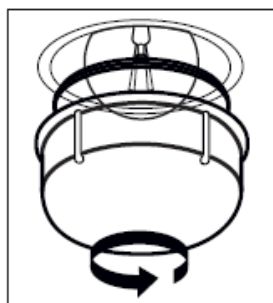

Figure 26
2. Remove the glass protection by turning it counterclockwise (See figure 26). Using plastic gloves may help you if you have difficulty in rotating it.